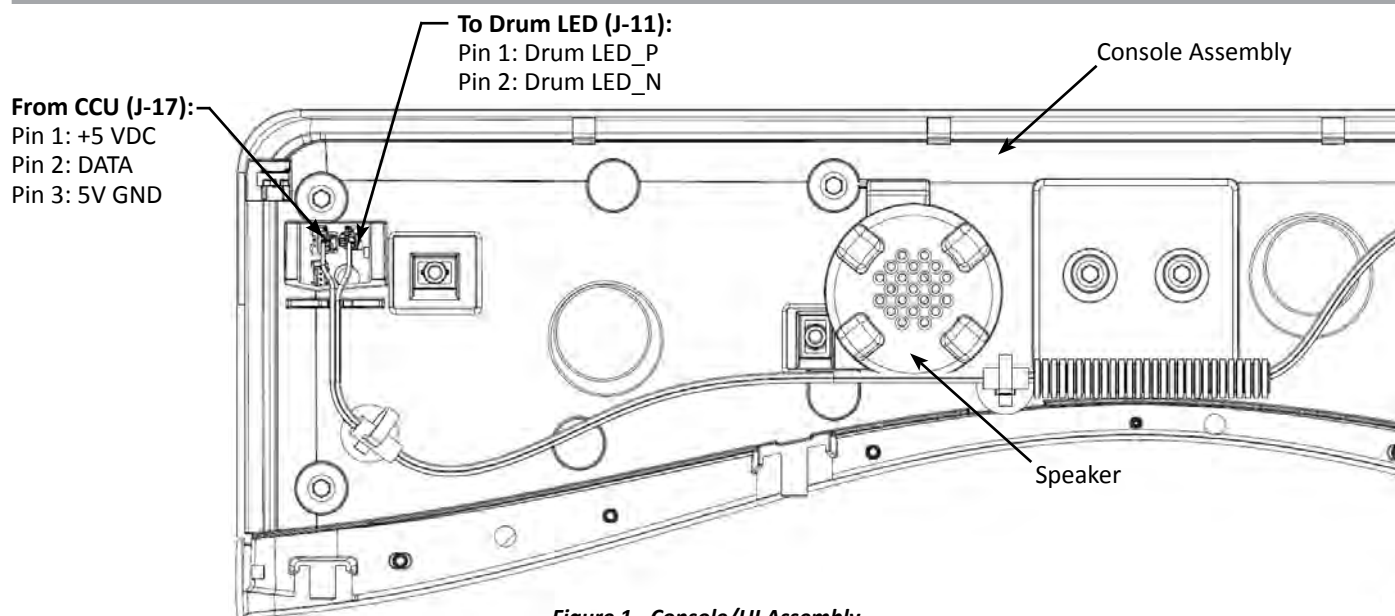

Figure 1 - Console/UI Assembly
3. Remove top panel to access the CCU and user interface (UI).
5. Visually check that ALL UI connectors are inserted all the way into the UI. See Figure 1 below.